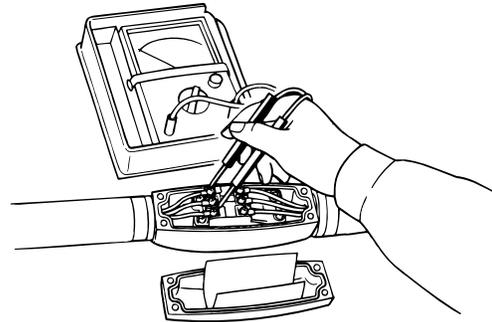

Figure 5. Conduction and Short Circuit of Lead Wire (Switch to Motor Side)
7. Check conduction and short circuit of lead wire from the switch to the motor side (with switch turned off). See Figure 5.